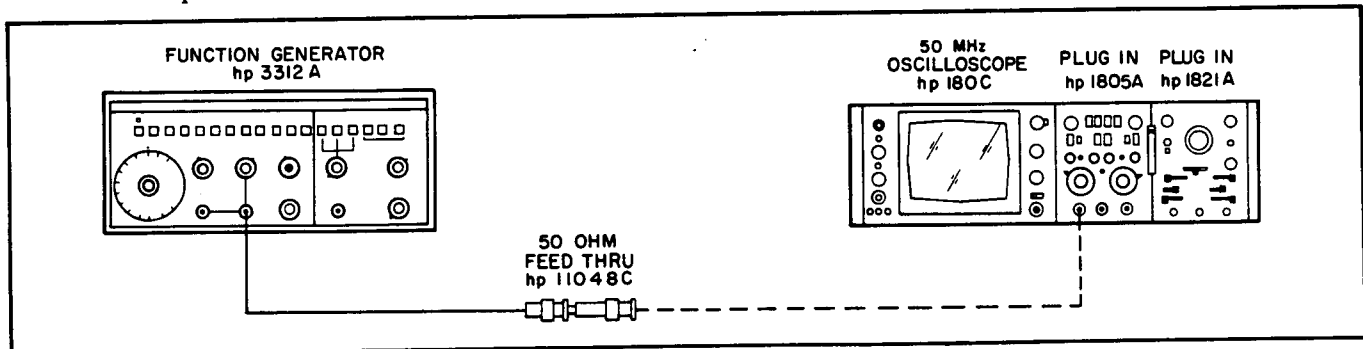

Figure 5-7. Amplitude Flatness.
- a. Connect the equipment as shown in Figure 5-7.